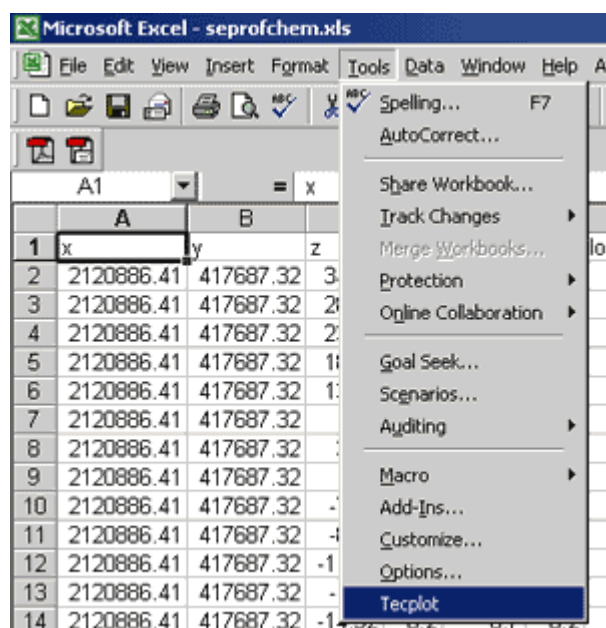

Figure B-9. Accessing the Excel Loader macro via Excel's menu bar.
1. Load your Excel data using the new **Excel Macro**. (Accessing this dialog is shown in Figure B-9))